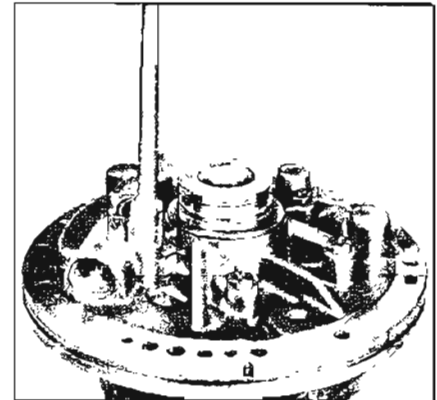

Figure 5-580
6. Remove the pump cover to body attaching bolts. See Figure 5-580.